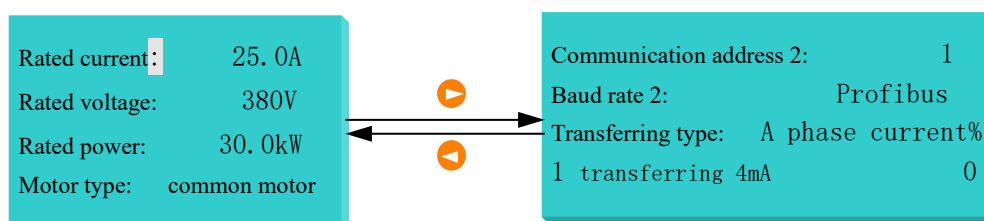

Figure 35 Save station setting of profibus
(2)Press key  into the system menu setting, and switch into the interface of communication address 2 by  or . Firstly set the value of baud rate 2 as “Profibus”, and then set the slave station address of Profibus. These are as shown in figure 35.